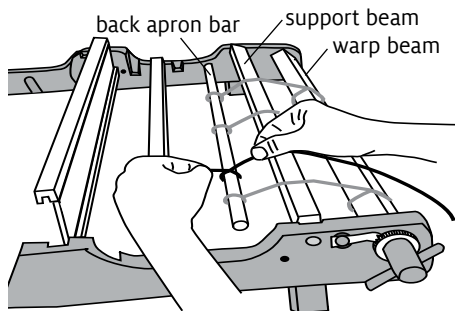

FIGURE 4: TIE ONTO THE APRON BAR
4. Bring the apron rod up over the warp beam and support beam toward the heddle. Tie the end of the yarn to the apron rod at the place that will be the edge of your weaving (figure 4). Find the center of the heddle and then measure to the right half the width of your warp. (For example, if your warp is 10” wide, measure 5” to the right and begin threading at this point.)